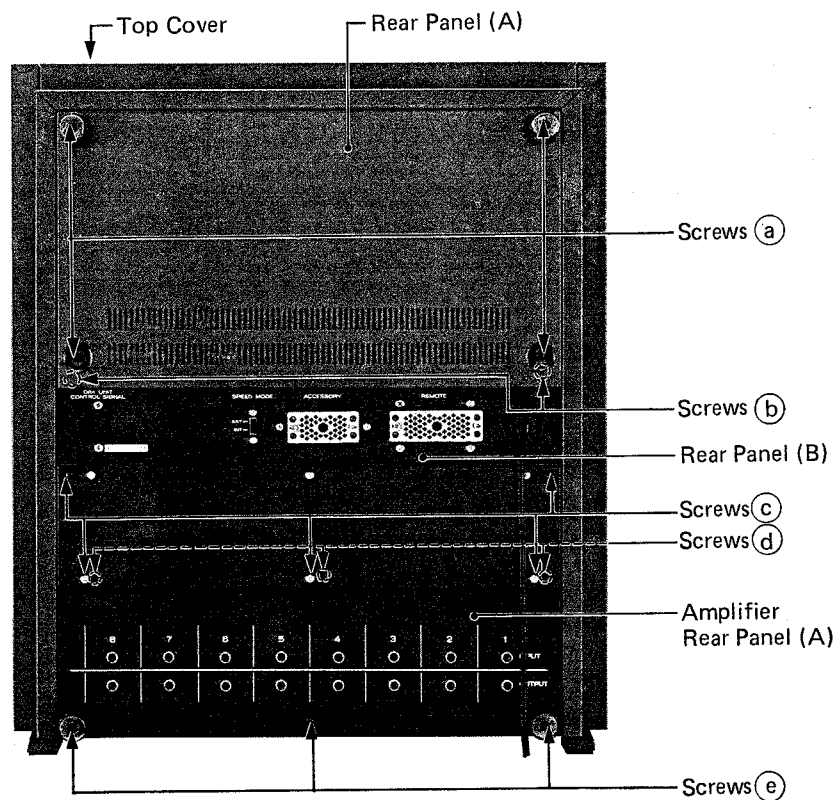

Fig. 7-6. Rear Panels
1. Rear panel (A) can be removed by removing the four screws (a) shown in Fig. 7-6.
2. To open rear panel (B), remove the two screws (b) located beneath rear panel (A) and the five visible screws (c) on rear panel (B).
3. To remove the amplifier rear panel (A), remove the three screws (d) located beneath rear panel (B) and the three visible screws (e) on the amplifier rear panel (A).